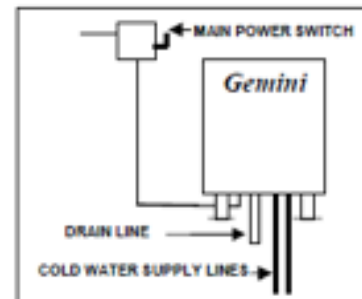

Figure 6-2 External Main Power Switch
8. After automatic fill has ended, turn OFF power at the external main power switch. See Figure 6-2. Add an additional 1-gallon of water to each port.